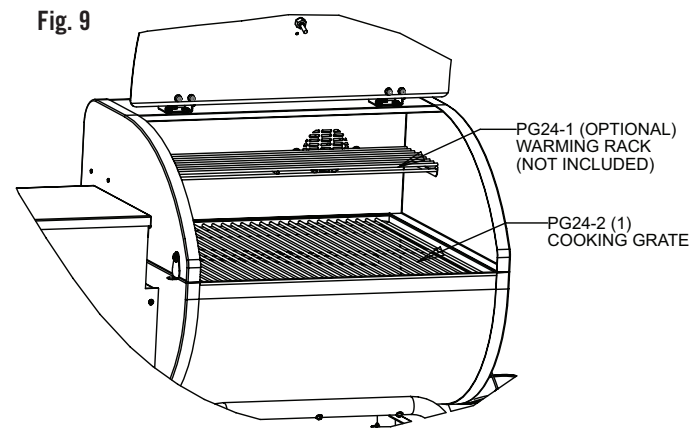

Fig. 9
1. Install the Warming Rack and Cooking Grate as shown in Fig 9.